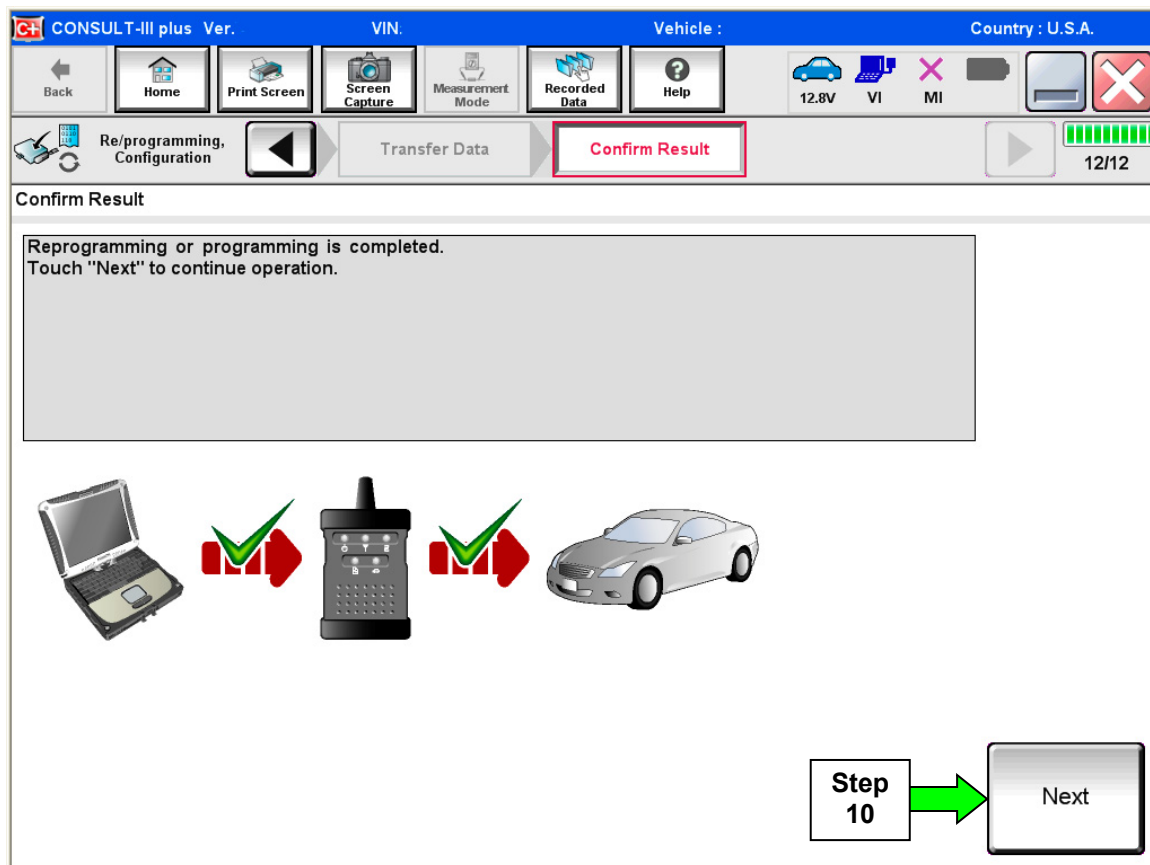

Figure 4
9. When the screen in Figure 4 displays, reprogramming is complete.
NOTE: If the screen in Figure 4 does not display (indicating that reprogramming did not complete), refer to the information on page 9.